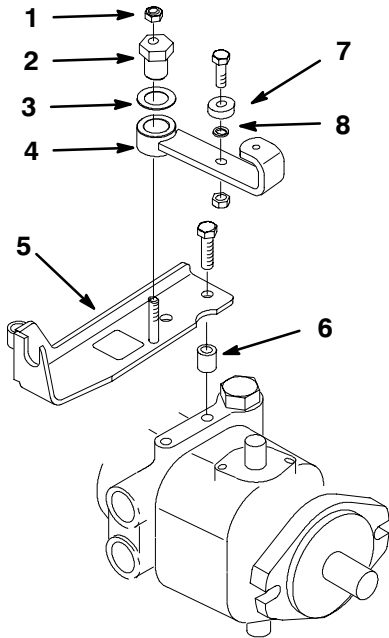

Figure 3
8. Remove lock nut securing traction stud, thrust washer and neutral arm to cable support (Fig. 3). Remove and retain components.
9. Remove (2) capscrews securing spacers and cable support to pump (Fig. 3). Discard cable support, spacers and capscrews.
10. Remove capscrew and nut securing ball bearing and spacer to neutral arm (Fig. 3).